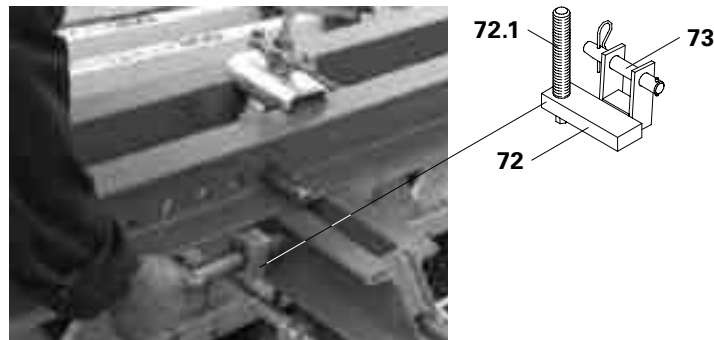

Fig. B2.03
3. Fix Height Adjusting Unit CB, SCS (72) with Bolts \varnothing 25x180 (73) and Cotter Pin 4/1 to the Strongback CB (70). (Fig. B2.03)